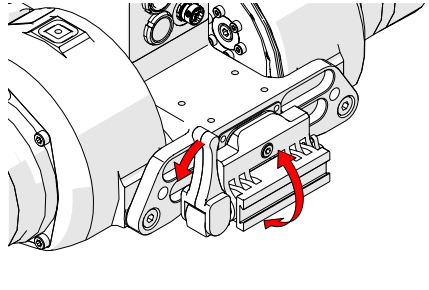

Fig. 49 - Adjust pivot nose by lowering lever
2. To adjust the nose of the pivot mount. Lower the lever and adjust the nose as needed (Fig. 49).